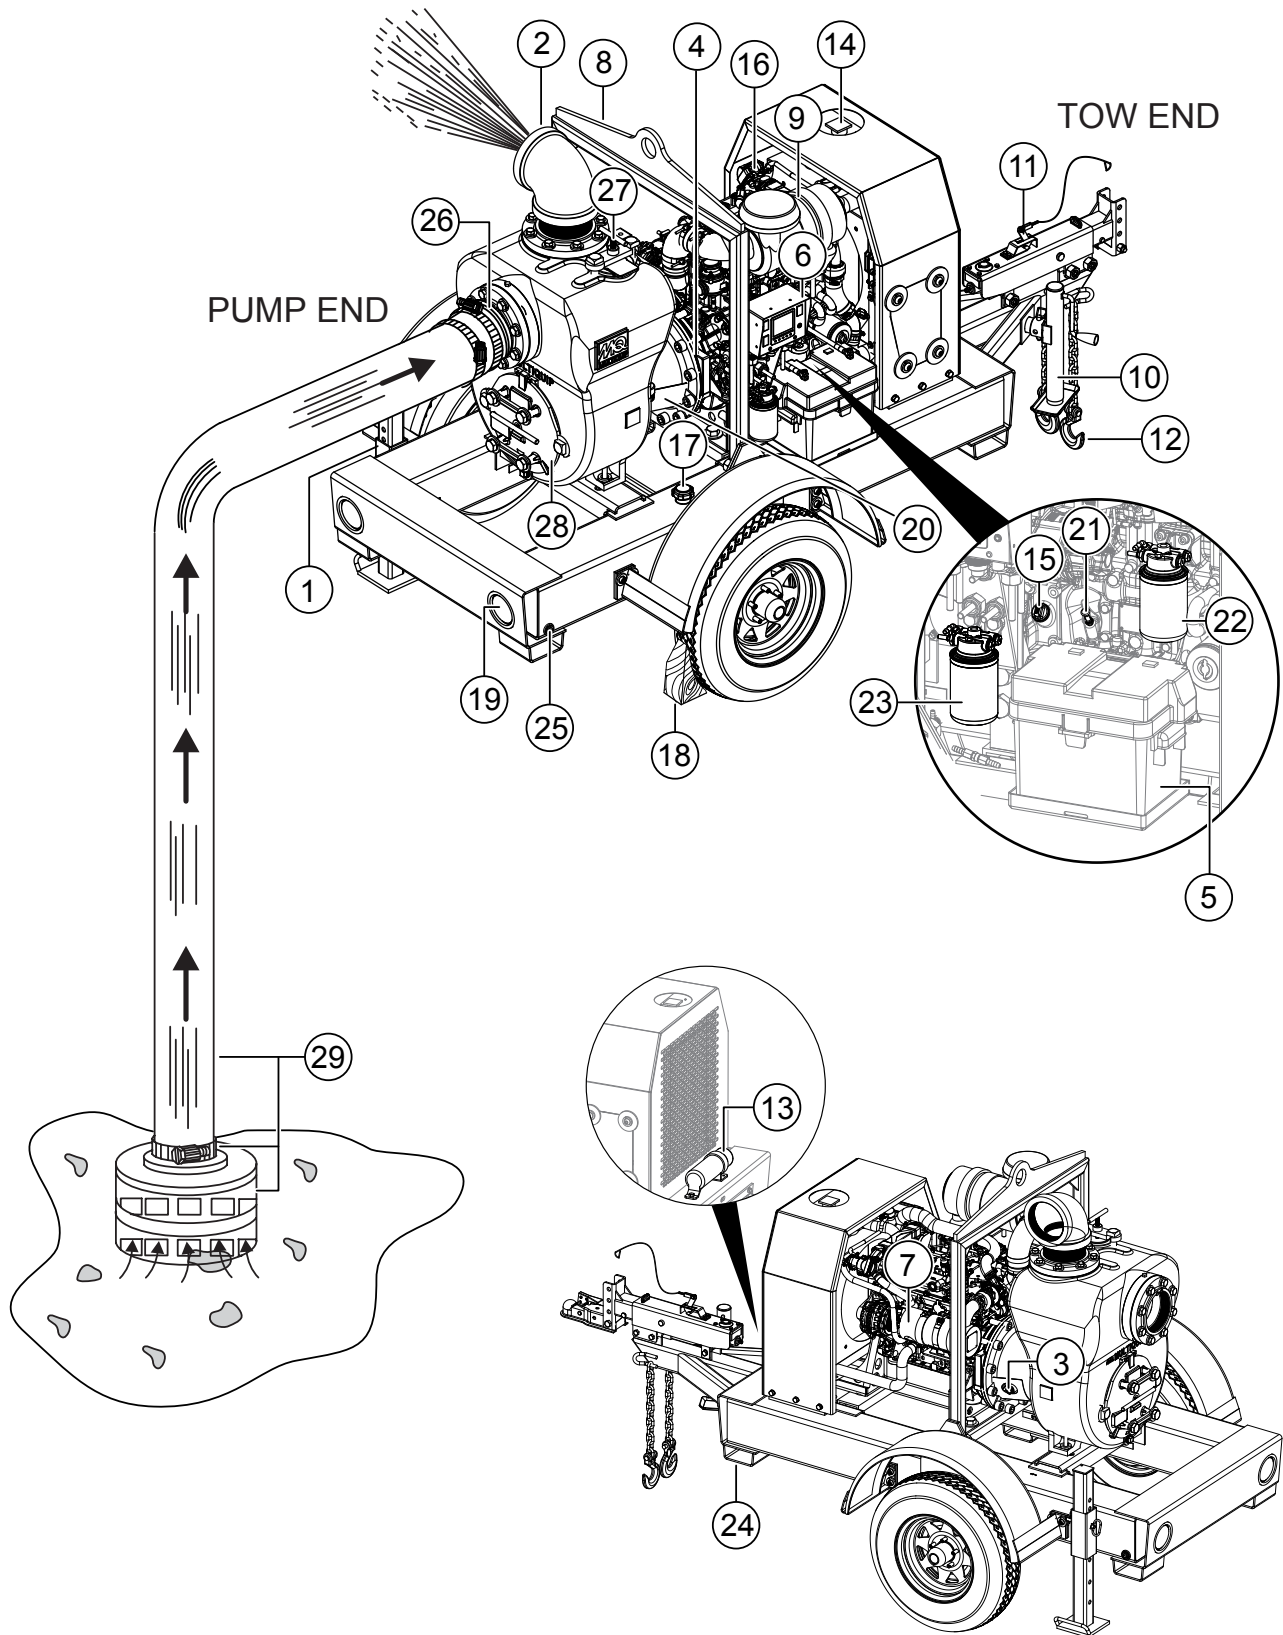

Figure 3. Pump Components
Figure 3 shows the location of the components and basic components for the MQ600H-HTB-HTP trash pump. The function of each component or control is described below:
3. To prime pump, remove fill cap (Figure 3) and fill pump case with water. If the pump case is not filled with water before starting, it will not begin pumping.
4. Check that the **discharge** hose (Figure 3) is not restricted. Place hose so that it lays as straight as it is possible on the ground. Remove any twists or sharp bends from hose which may block the flow of water.